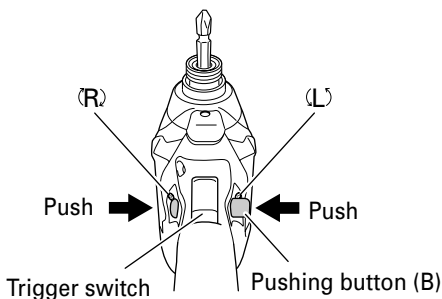

Fig. 8
The bit rotates clockwise (viewed from the rear side) by pushing the R-side of the pushing button (B). The L-side of the pushing button (B) is pushed to turn the bit counterclockwise. (See Fig. 8). (The (L) and (R) marks are engraved on the body.)